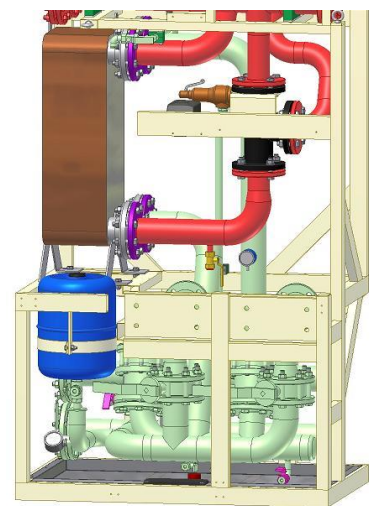

Figure 6.2-2
1. Drain both the primary circuit and the secondary circuit. The secondary circuit is drained through the V233 valve (marked yellow in Figure 6.2-2). The primary circuit is drained through the valves V230 and V231 (marked magenta in Figure 4.2-2).